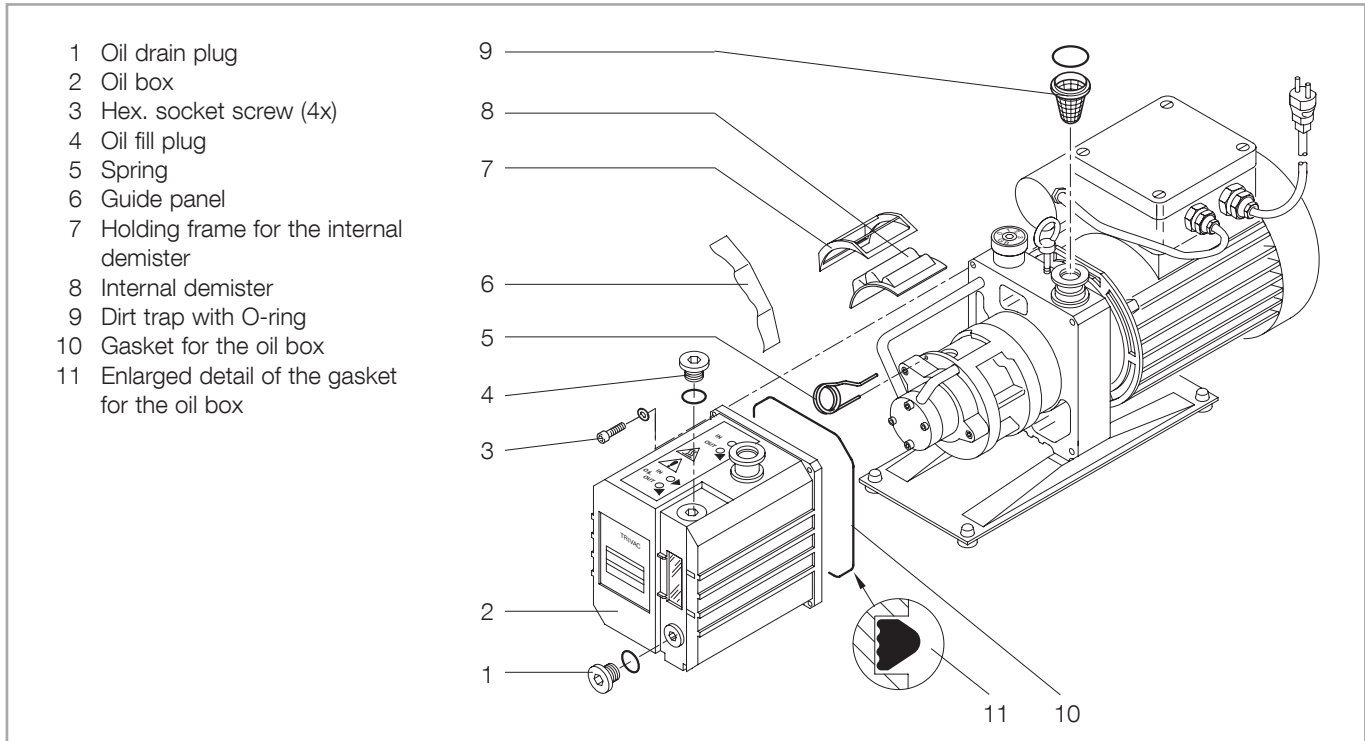

Fig. 7 Removing and inserting the internal demister
Make sure to fit the gasket for the oil box (7/10) with the flat side in the groove, see item 11 in Fig. 7.